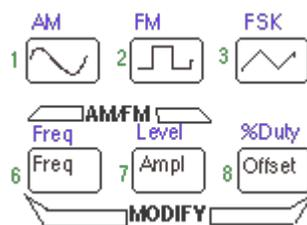

Figure 12: Selecting the AM mode
8. Set the modulating frequency by pressing 'SHIFT' and 'FREQ' key (Figure 12). 'AM' annunciator will flash.